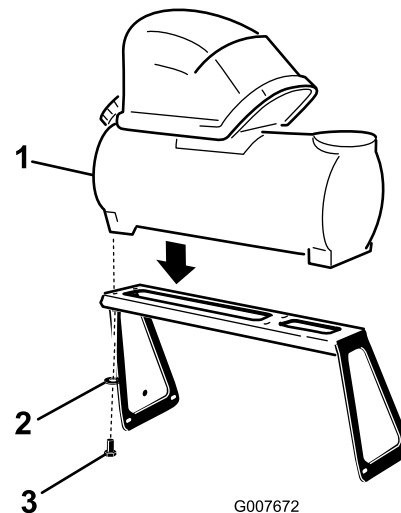

Figure 2
1. Place the foam tank assembly on the mounting bracket as shown (Figure 2).